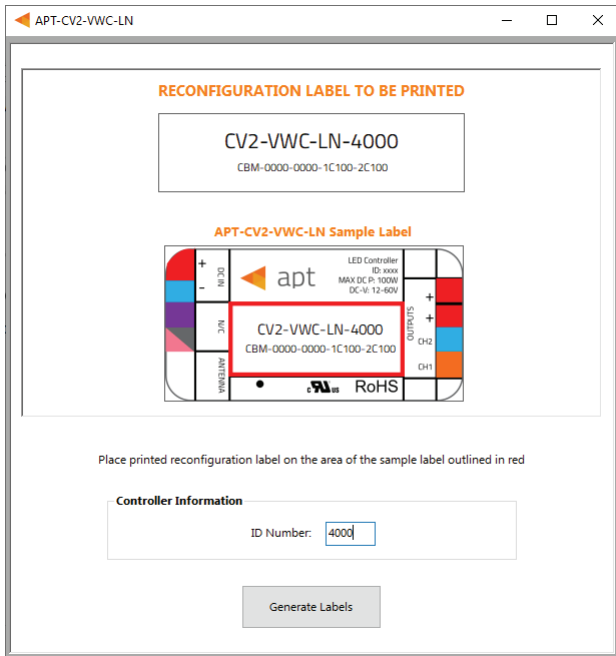

Figure 12: Label Generation window
- 1 Select **File > Generate Label** or press **Ctrl +L** to open the Label Generation window (shown in Figure 12).
- 3 Input the 4-digit **ID Number** written on the original label (shown in Figure 12). The ID Number indicates the production build of the APT Controller.